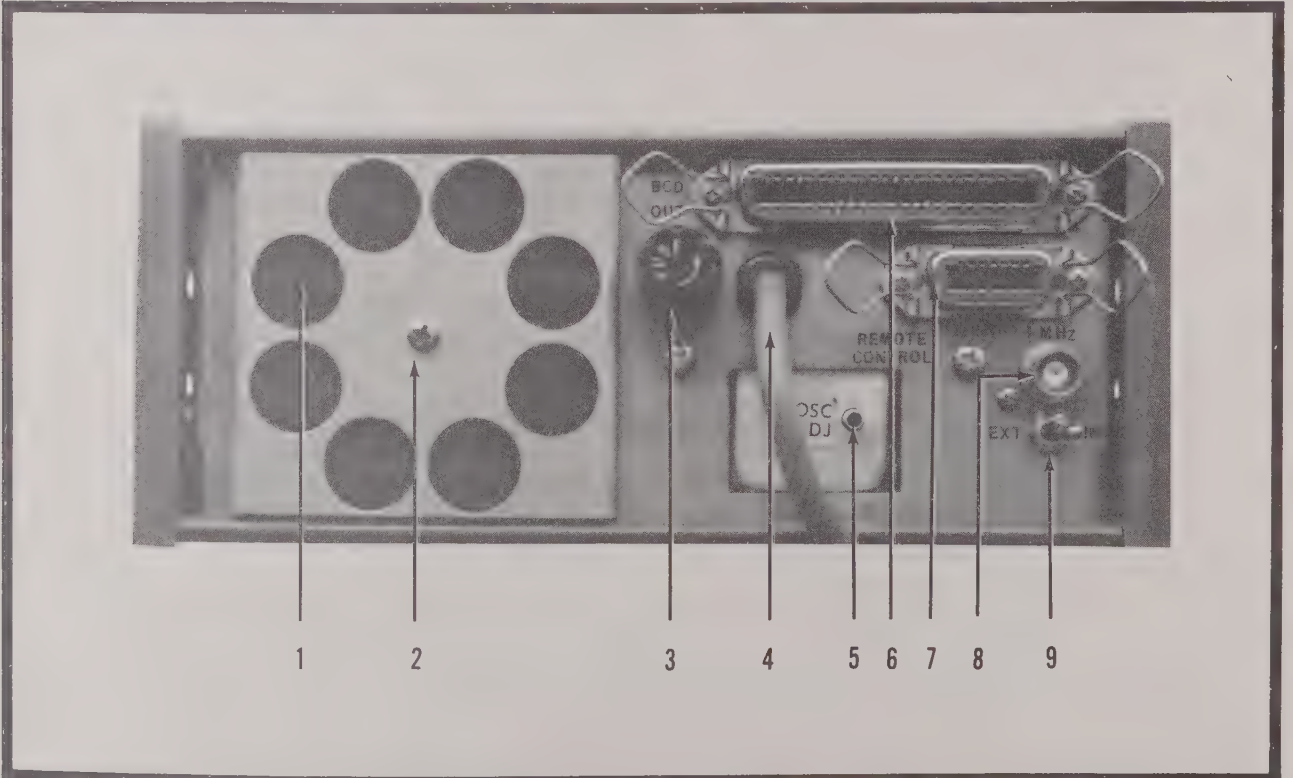

FIGURE 3.2 REAR PANEL, MODEL 6053/3
2. Position INT/EXT switch (Index 9, Figure 3.2) to INT.